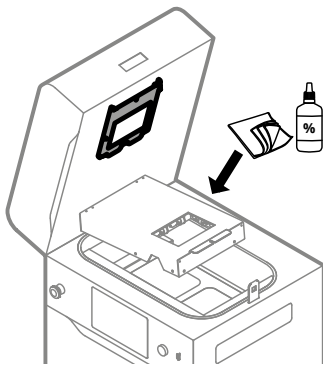

Fig. 12.50 Clean the reflector thoroughly before applying a new sealing.
12. Use a cotton cloth soaked in alcohol to remove the sealing residues (fig. 12.50).